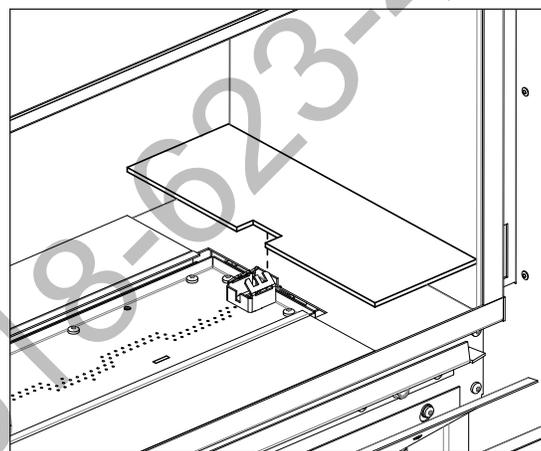

Figure 60: Bezel Placement Around Pilot
3. Ensure that the short, notched bezel is placed around the pilot assembly as shown in Figure 60.